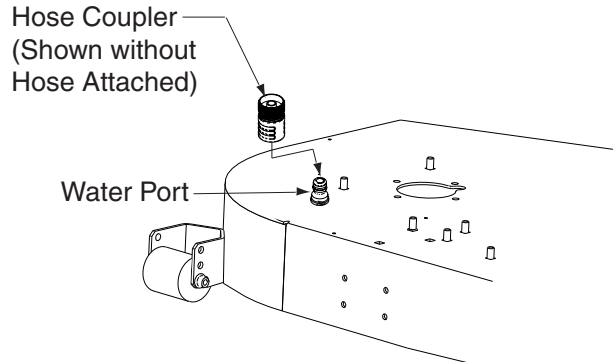

Figure. 6
- e. Thread hose coupler (packaged with this manual) onto the end of your garden hose. See Figure 6. Attach the hose coupler to the water port on your mower deck's surface. See Figure 6. Turn the water on.